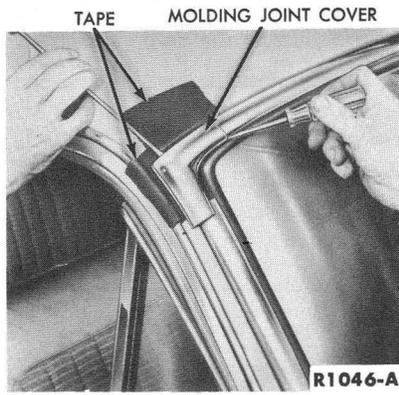

FIG. 12—Moulding Joint Cover Removal
2. Tape the roof panel at the upper corners to prevent scratching, and remove the moulding joint covers (Fig. 12). The covers are retained by a snap fit.